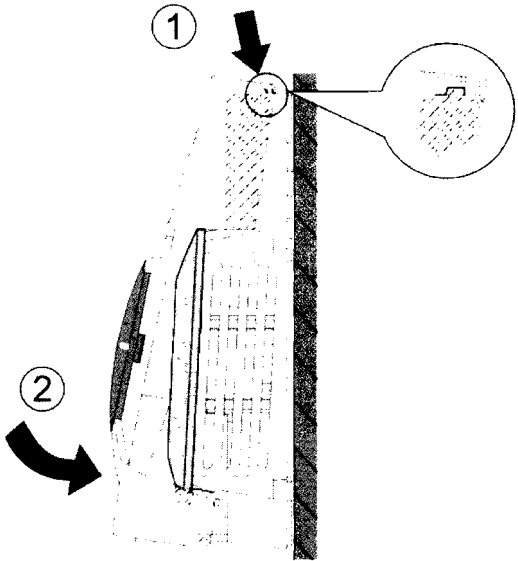

Fig. 4. Mounting cover of C7110C,D Wall Modules
8. Remount the cover as depicted in Fig. 4 and make sure that the tab on the underside engages.